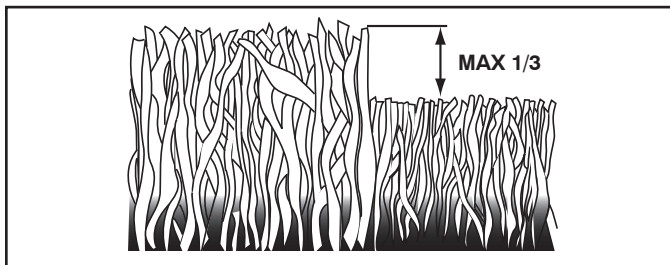

Fig. 21
- For best results, adjust the mower cutting height so that the mower cuts off only the top one-third of the grass blades (See Fig. 21). For extremely heavy mulching, reduce your width of cut on each pass and mow slowly.